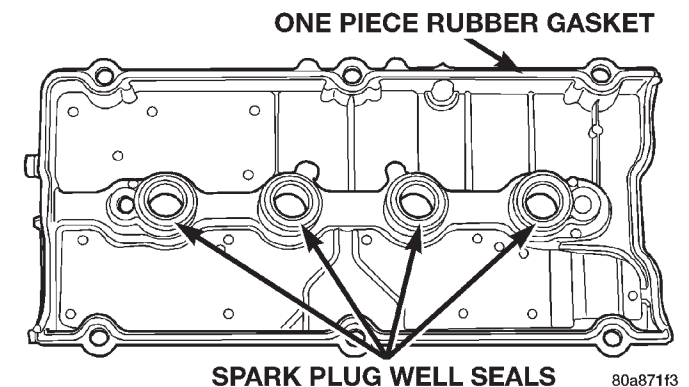

Fig. 31 Cylinder Head Cover Gasket and Spark Plug Seals
(1) Install new cylinder head cover gaskets and spark plug seals (Fig. 31).